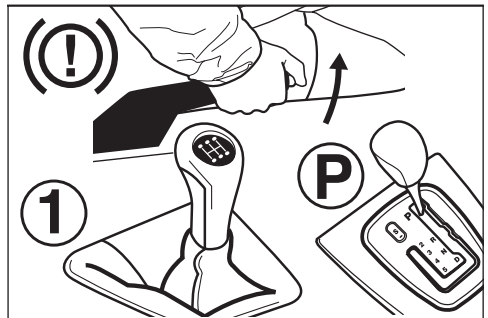

Fig. 1
3.1 Positioning the Jack - Figs 1 - 2